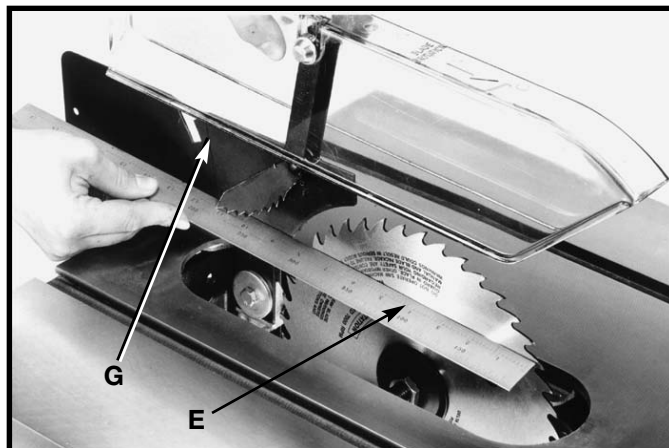
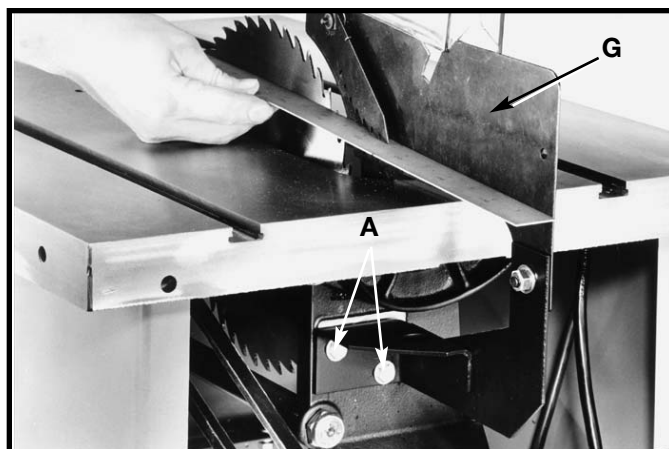

Fig. 32
Fig. 33
10. Use a straight edge (E) to check to see if the saw blade is aligned with the rear of the splitter (G) in Figs. 32 and 33. If alignment is necessary, loosen the bolts (A) Fig. 33, align splitter (G) with the saw blade, and **tighten two bolts (A).**